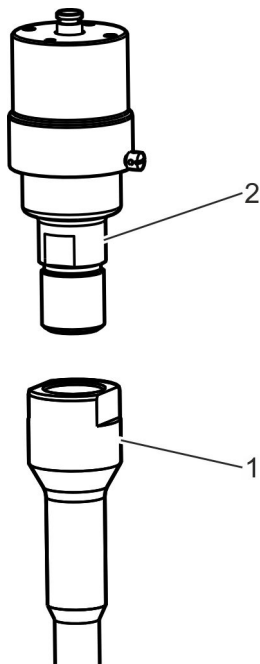

Fig. 17: Inserting the body
- 12.** Screw the body (Fig. 17/2) of the new spring-loaded over pressure safety device on to the pipe nozzle (Fig. 17/1), turning it clockwise and without tightening it fully.